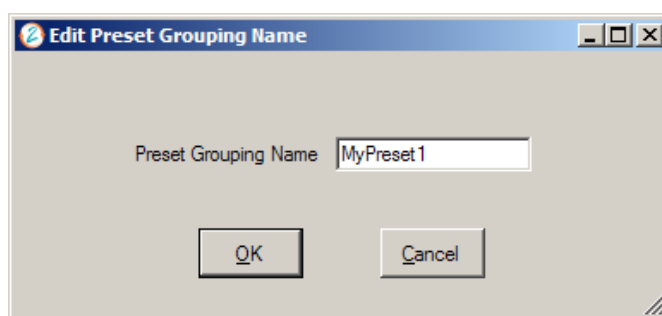

Figure 3-59: Make individualized preset
Step 8 Create a preset by typing in any new name for a preset with either letters and/or numerals (Figure 3-59). Then click on the OK button.